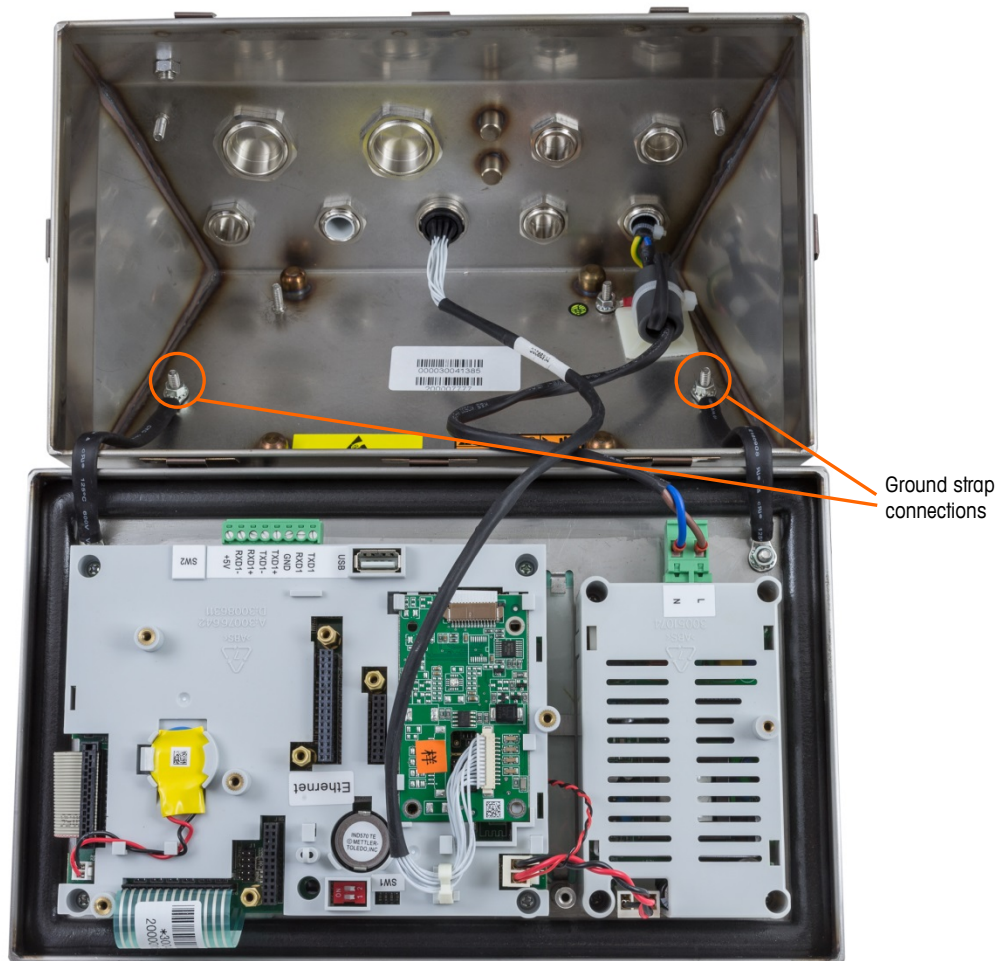

Figure A-13: Loosening the Ground Straps
- B. Loosen and remove the two nuts securing the two grounding straps (these also operate as hinges for the front cover) to the rear housing. See Figure A-13.